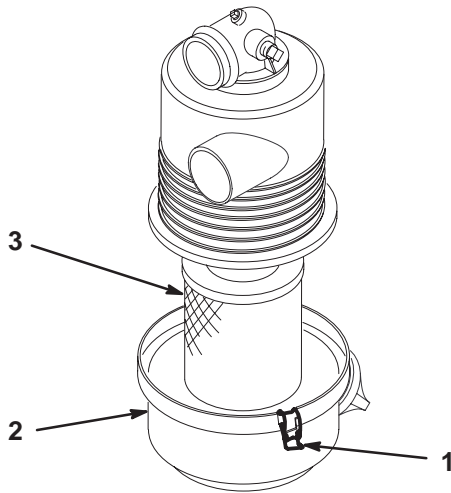

Figure 19
3. Release the latches securing the air cleaner cover to the air cleaner body. Separate the cover from the body. Clean the inside of the air cleaner cover (Fig. 19).
4. Gently slide the filter out of the air cleaner body to reduce the amount of dust dislodged (Fig. 19). Avoid knocking the filter against the air cleaner body.